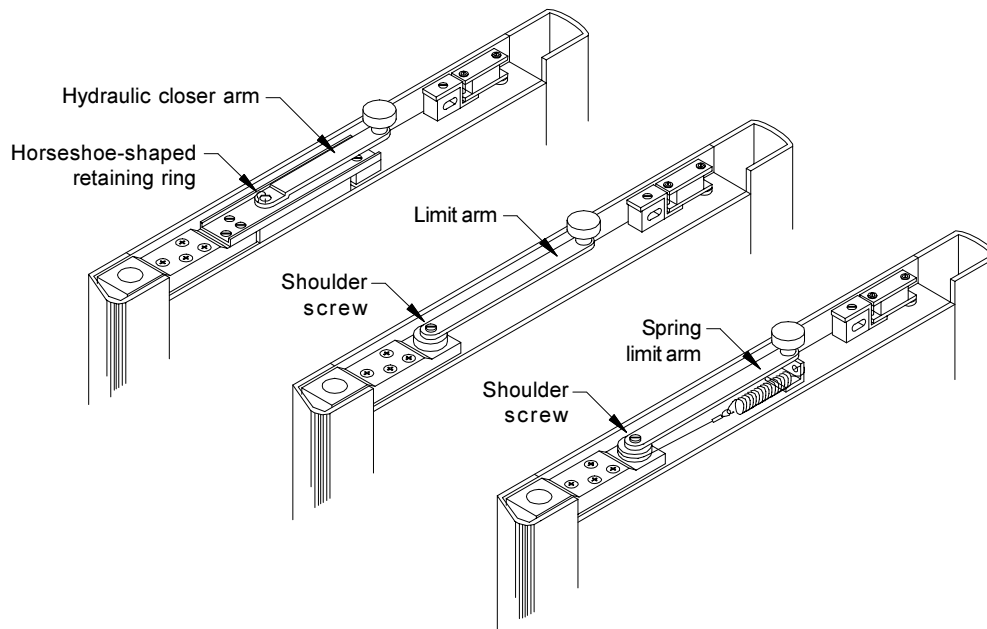

Figure 24. Limit Arm Details
1. Depending on the specific package ordered, Dor-O-Matic provides one of three limit arm types: hydraulic closer arm, limit arm, and spring limit arm (**Figure 24**).